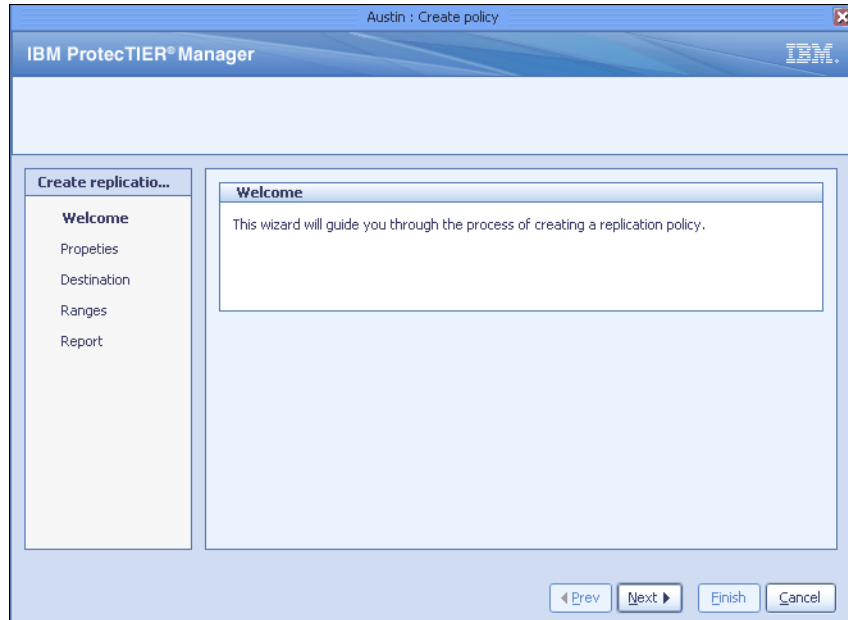

Figure 5-107 Create Replication Policy welcome window
2. Select **Replication** → **Policy** → **Create policy**. The Welcome window of the Create policy wizard opens (Figure 5-107).